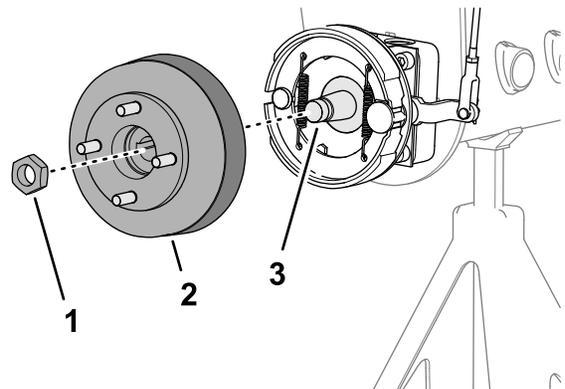
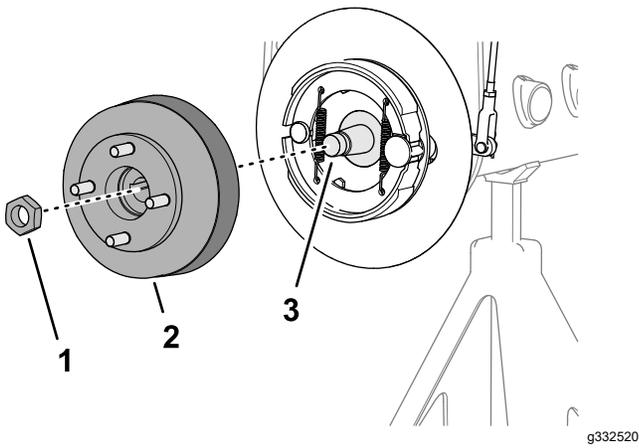

Figure 86
Figure 87
3. Assemble the wheel hub and brake drum onto the wheel-motor shaft (Figure 86 or Figure 87).
4. Secure the wheel hub to the shaft with the locknut (Figure 86 or Figure 87), and tighten by hand.